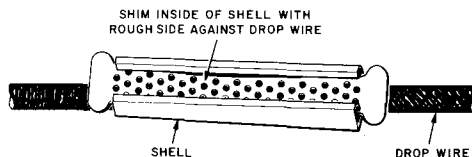

Fig. 4 — Shim in Final Position in Shell
2.04 The relative positions of shim, wire, and shell when completely assembled are illustrated in Fig. 4.